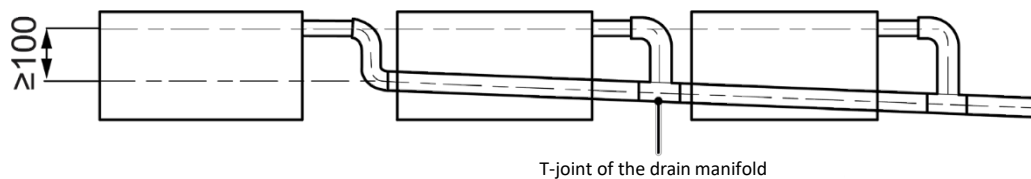

Fig. 4.3.4
- 4 When connecting multiple drain pipes, follow the instructions shown in Fig. 4.3.4. Select a drain manifold pipe that matches the unit's capacity.